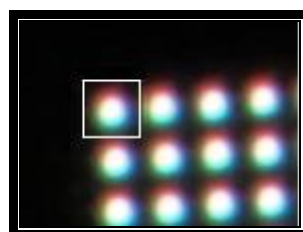

Fig.3-20
Step19: Press the “W” key on the keyboard of the PC, a white box will be appeared on the photo, as shown in figure 3-20. Move the small box to just encircle a LED light point. (Continuous press the “W” key, the small box will follow the mouse to change the position; Press the “Z” key and “X” key can change the size of box) .